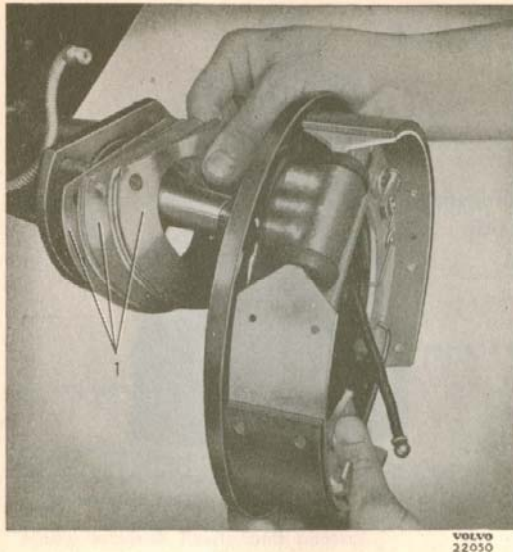

Fig. 5-31. Fitting the brake backing plate
4. Fit the brake backing plates and the shims (16) as well as the retainer and felt seal (18), see Fig. 5-31.